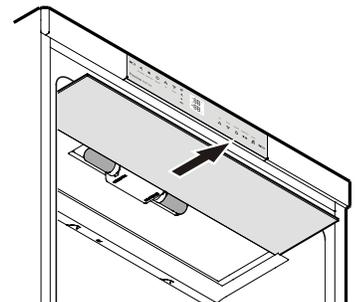

Figure 15
2. Retirer la plaque de verre - **Figure 15**.